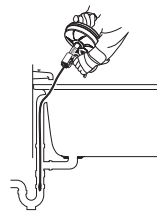

Figure 6
- For bathtubs, never try to go through the drain, this will damage the cable. Remove the overflow plate and any mechanism to access the drain (See *Figure 6*).